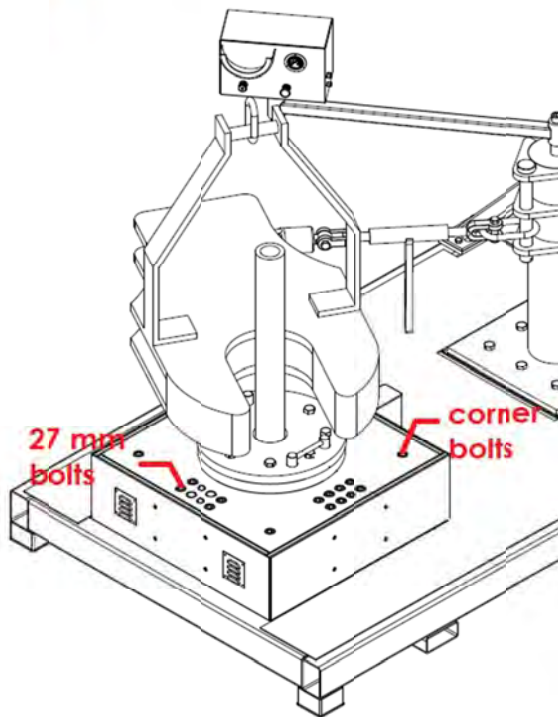

Figure 13
To install new brake pads, remove all four (4) sides from the torque box. Remove all 27 mm brake bolts. See Figure 13. Loosen the corner bolts (1" – 8) about half (½) an inch and gently pry up the lid to release the torque on the top of the box. Undo and remove all hydraulic lines. Remove the upper half of the caliper and slide it out followed by the lower half. Replace pads per instructions in Appendix A.